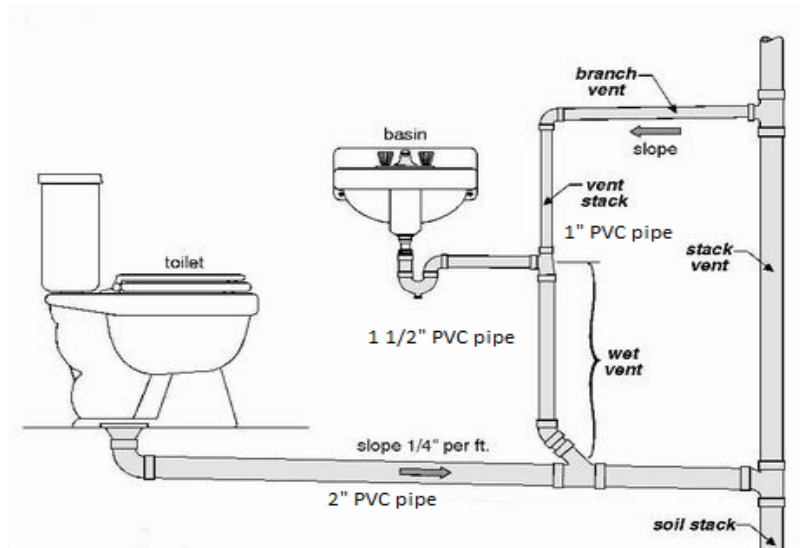

Figure B4(c) / Rajah B4(c)
- (c) The taking off list is the process of analyzing technical drawings and specifications to identify the elements. The list should include each building element from the smallest to the largest component. Based on Figure B4(c) below, illustrate a taking off list for the piping system.